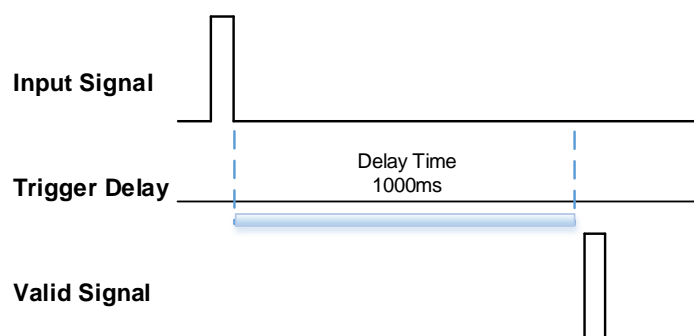

Figure 8-2 Trigger delay schematic diagram
**Example 1:** Setting the trigger delay value to 1000ms, and the trigger signal will be valid after 1000ms delay, as shown in Figure 8-2.